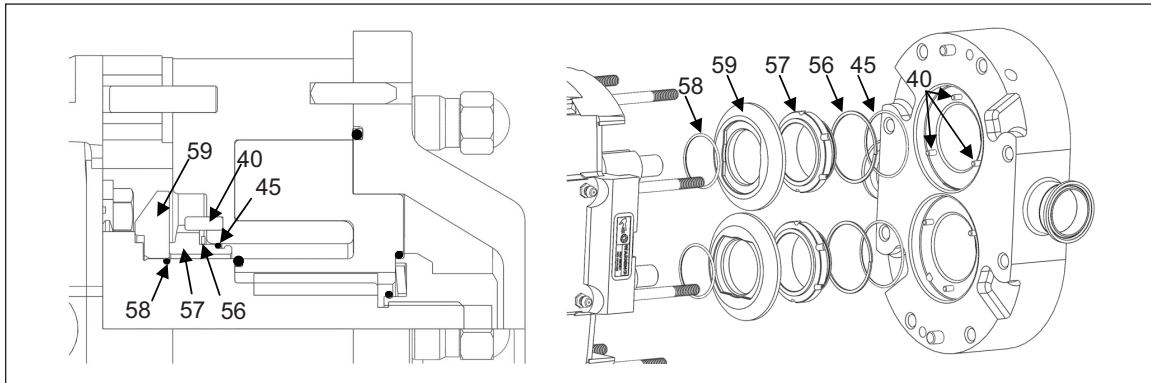

Figure 27. Single Mechanical Seal
1. Remove the Inner stationary seals from the pump body (*Figure 27*, item 57).